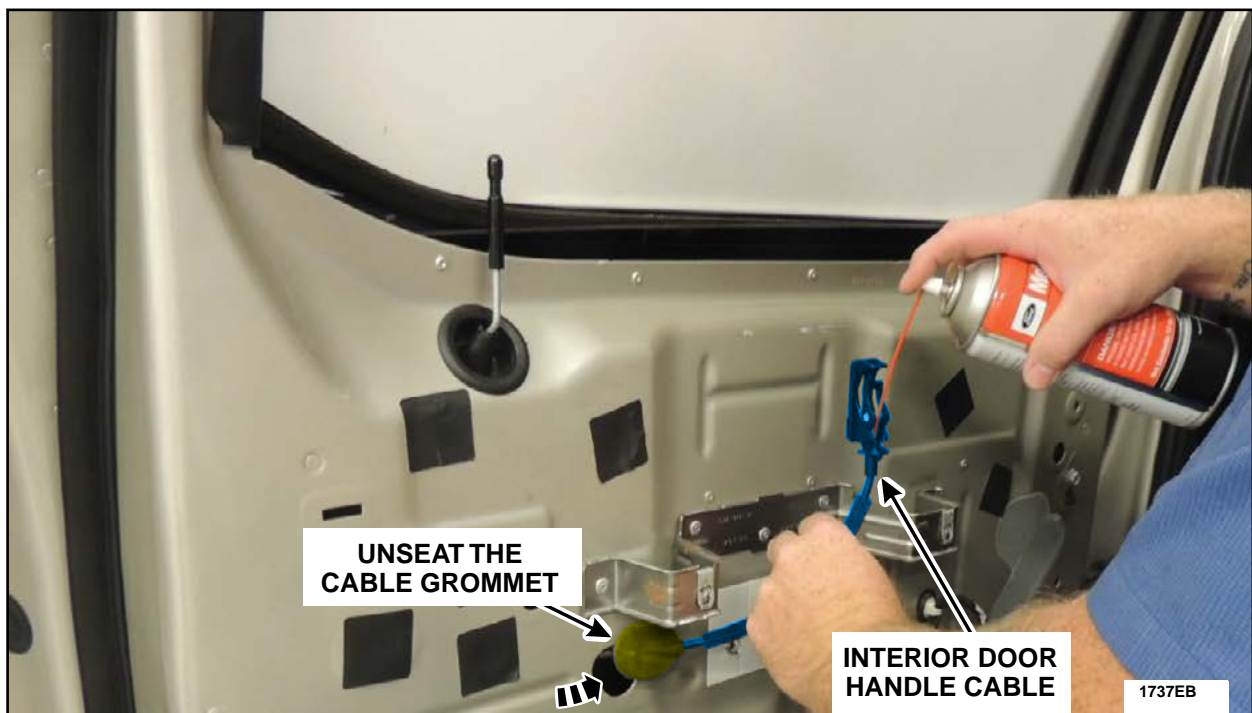

FIGURE 86
15. Unseat the interior door handle cable rubber grommet and while holding the end of the interior door handle cable in an upward position, spray Motorcraft® XL-6 Lubricant for five seconds down into the cable. See Figure 86.